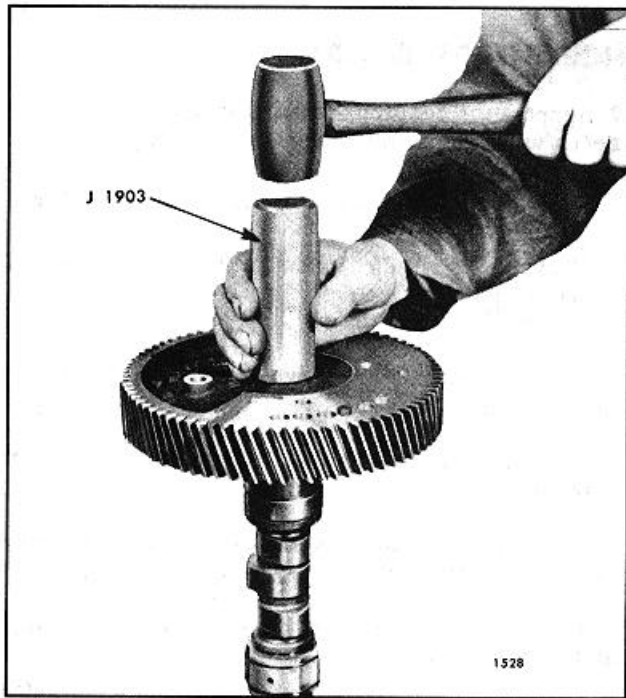

Fig. 3. Replacing Gear (Camshaft Shown)
5. Use gear installer J 1903 as shown in Fig. 3 to drive the gears on the camshaft and balance shaft.